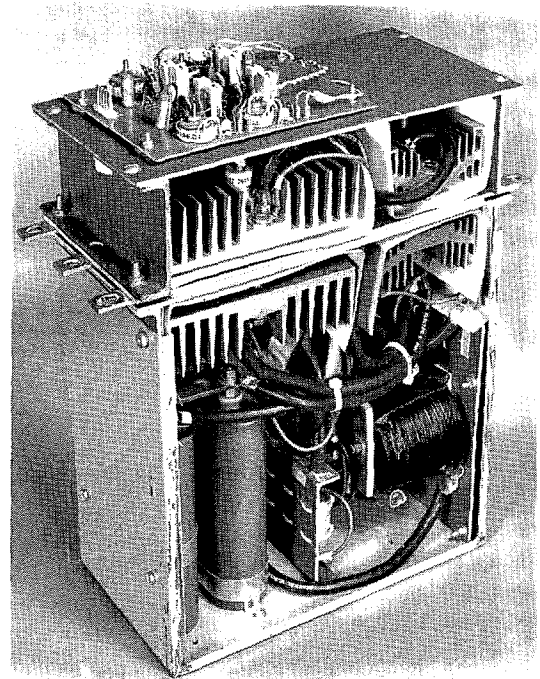

FIGURE 20
2. Stand the Inverter phase module on its back side on a 30" high table. The pulse transformer printed circuit card should be on top. (Normally on the front of the module). See Figure 20.